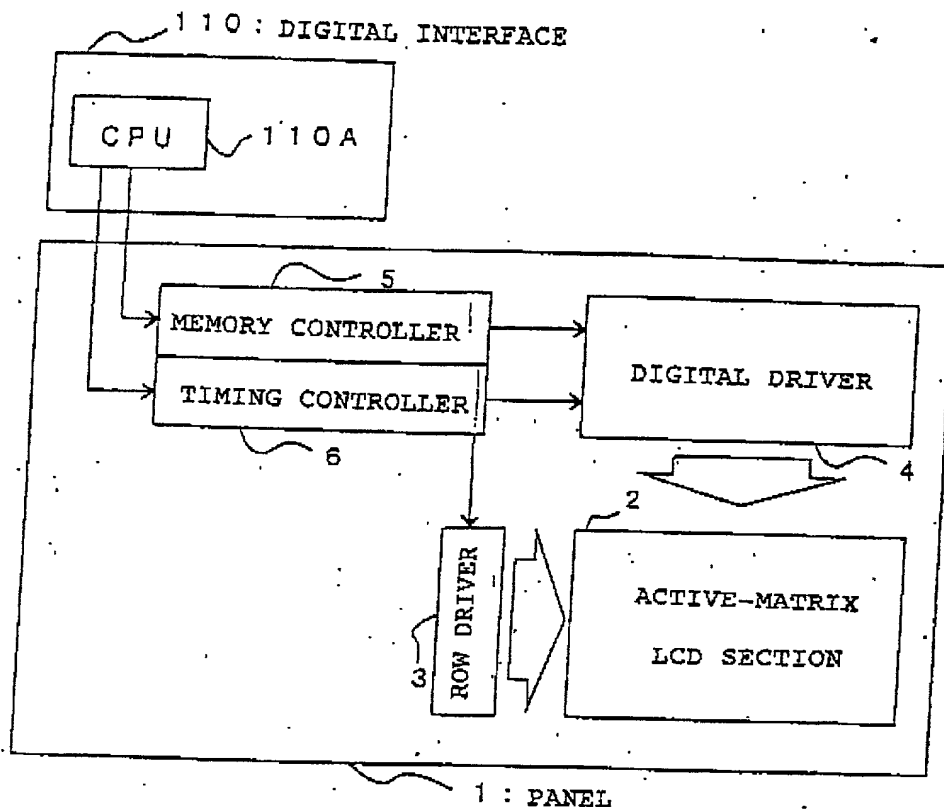

Fig. 1
Fig. 1 is a block diagram of an active-matrix OELD display system. The system includes a MEMORY CONTROLLER (5) and a TIMING CONTROLLER (6A) which receive kx3 IMAGE SIGNALS (5). The TIMING CONTROLLER (6A) outputs an ADDRESS SIGNAL (61) to an ADDRESS BUFFER (61) and a COLUMN DECODER (j OUTPUT) (41). The ADDRESS BUFFER (61) outputs kx3 IMAGESIGNALS (42) to an INPUT CONTROL CIRCUIT (42). The COLUMN DECODER (j OUTPUT) (41) outputs signals to a COLUMN SELECTION SWITCH SECTION (43A). The INPUT CONTROL CIRCUIT (42) outputs signals to a ROW DECODER (31) and a WORD LINE DRIVER (i OUTPUT) (32). The ROW DECODER (31) and WORD LINE DRIVER (i OUTPUT) (32) output signals to a 25A: OEL LUMINESCENT SECTION (D/A CONVERSION) (25A). The 25A: OEL LUMINESCENT SECTION (D/A CONVERSION) (25A) outputs signals to a 21A: STORING CIRCUIT SECTION (21A). The 21A: STORING CIRCUIT SECTION (21A) outputs signals to a 2B: ACTIVE-MATRIX OELD SECTION (ixj PIXELS) (2B). The 2B: ACTIVE-MATRIX OELD SECTION (ixj PIXELS) (2B) outputs signals to a 1B: PANEL (1B). The diagram also shows various power supply lines: VDD, VSS, VOEL, W1, W2, W3.